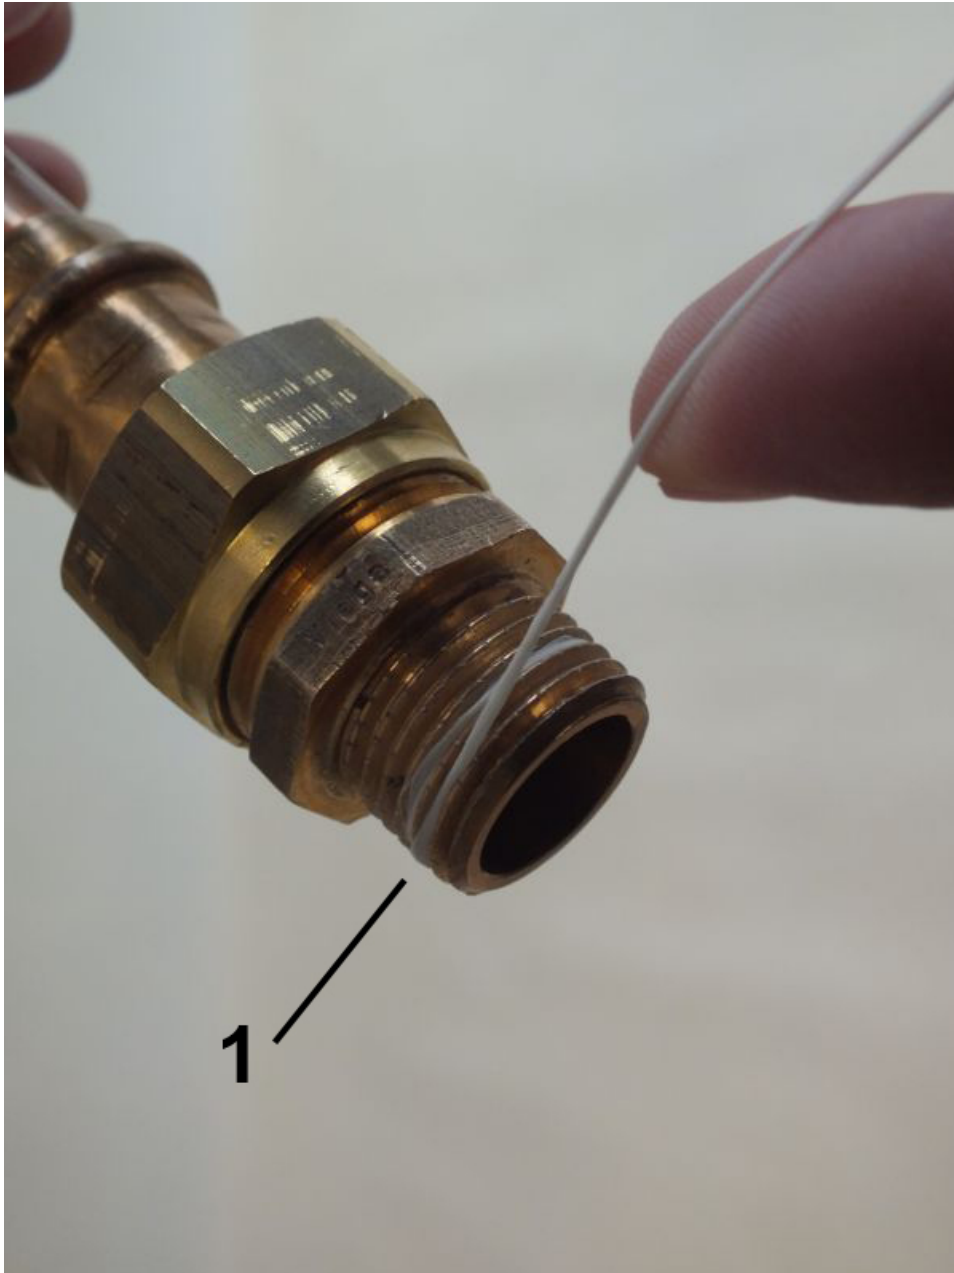

Fig. 9: Apply sealing thread
- 2.** Apply sealing thread (Fig. 9/1) to the napped thread in the threaded direction. Observe the quantity recommended by the sealant manufacturer.